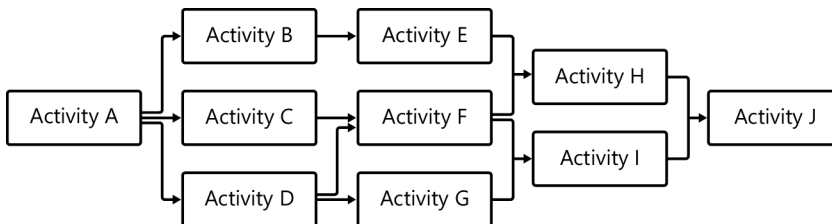

FIGURE 4-7 An activity-on-node network diagram shows activity nodes connected by arrows.
Figure 4-7 shows what an activity-on-node (AON) network diagram might look like at the end of the sequencing process. Information about each activity is represented in the nodes on the diagram, and the arrows indicate the relationship between the activities. In this case they are all finish-to-start (FS) relationships. The activity-on-node (AON) diagram is the most popular graphical way of representing a network diagram, but there is another, less intuitive way, called the *activity-on-arrow (AOA)* diagram.